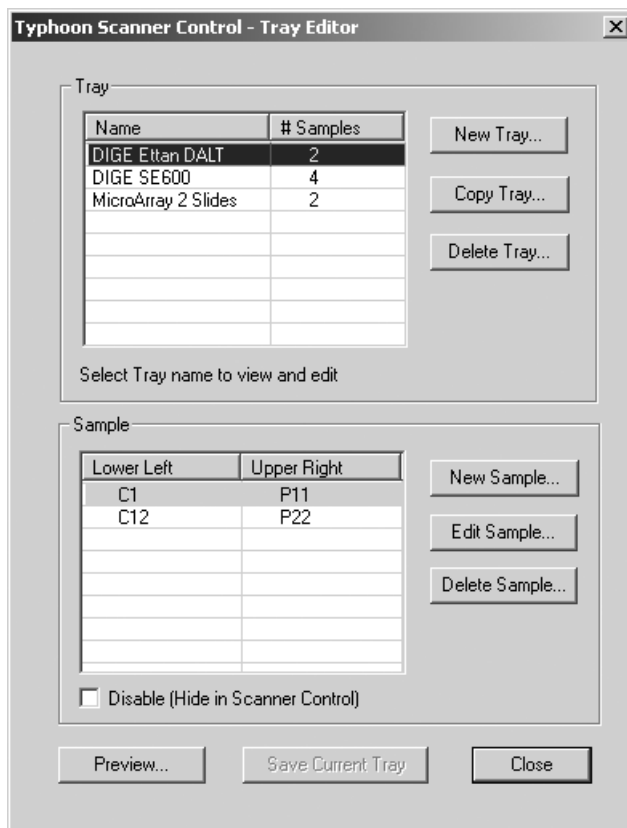

Fig 3-3. The Tray Editor window.
If you are scanning multiple samples (for example, DIGE gels), you can use the Tray Editor window (fig 3-3) to create a separate scan area for each sample. You provide a name for each scan area. When you select the scan parameters, you choose the tray definition from the Tray list. When you scan the samples, Scanner Control creates a separate image for each scan area defined in the selected tray definition.
- 1 Choose **Tray Editor** from the Tray menu. The Tray Editor window appears and displays the current list of defined trays (fig 3-3).
You can delete a tray definition that you no longer need from the list in the Tray Editor window (fig 3-3).